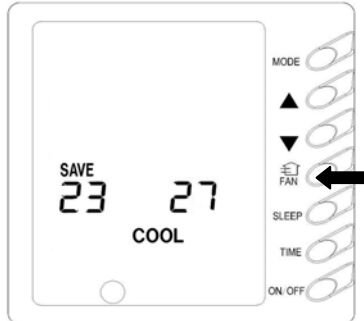

Fig. 7-10
7.2.9 Display of Outdoor Environment Temperature (Fig. 7-10)